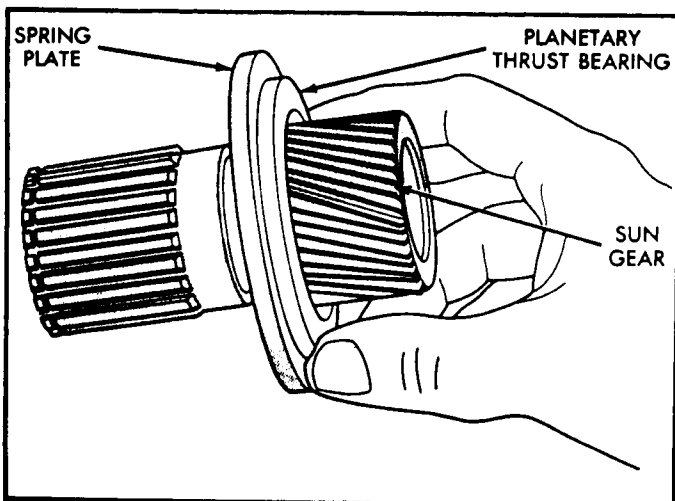

Figure 11
15. Install the bearing onto the spring plate using a liberal amount Trans-Jel to retain. Be sure bearing sits square against plate as it only fits one way (See Figure 11).